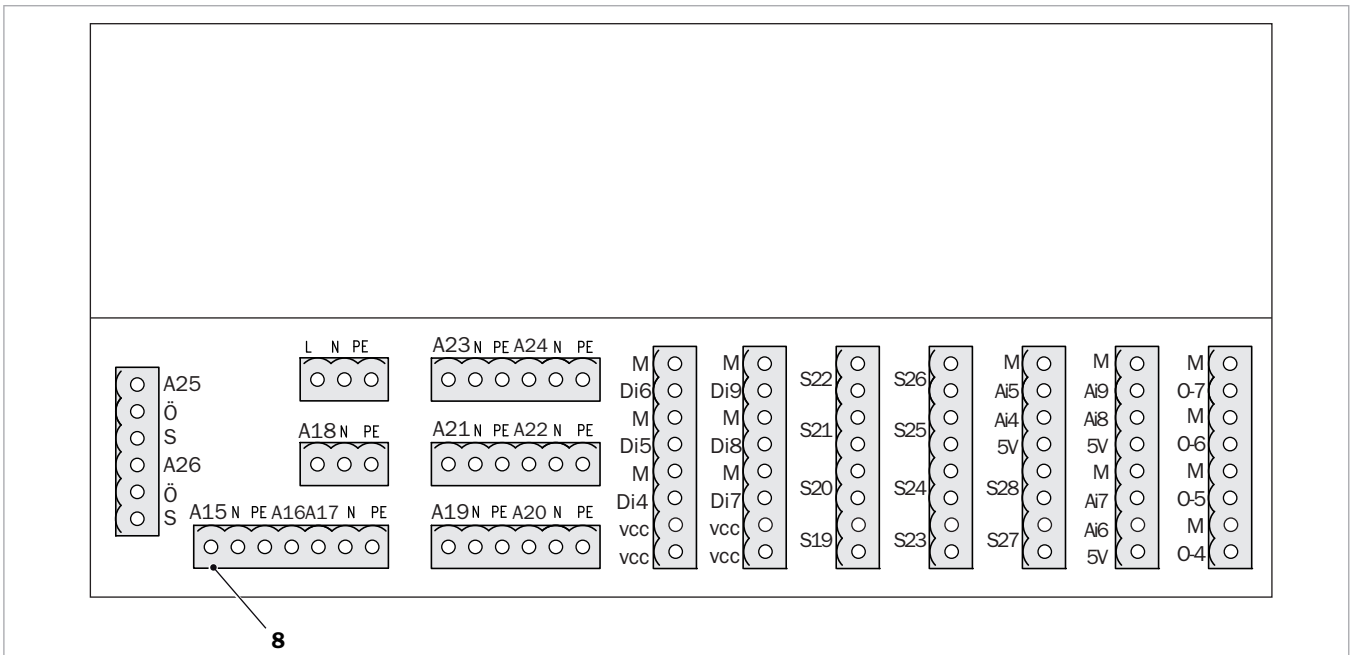

Fig. 9: Additional board
3. Remove the plugs for the pumps (2 - 7) from the mains module and (8) the additional board ( → Fig. 9) and plug them into (2 - 8) the emergency cable tree.